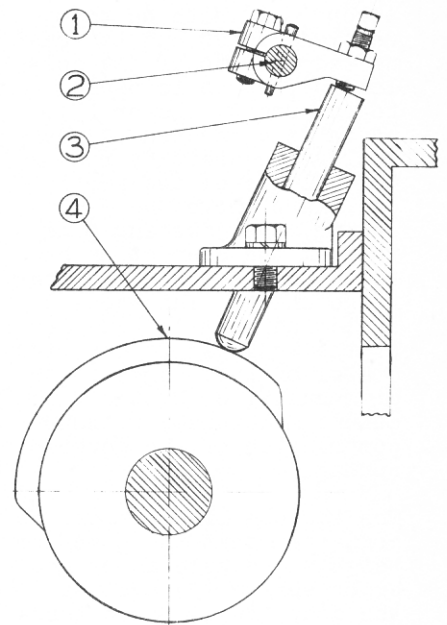

FIG. R-6
The fuel cut-out plunger is illustrated in Fig. R-6. As shown in Fig. R-6 the latch shaft is in or near the "STOP" position, with plunger (3) up on cam (4), which is mounted on one of the latch shaft webs. The upper end of the plunger has engaged the adjusting screw in lever (1), rotating the lever and the fuel wedge shaft (2) to pull out the fuel wedges and cut off fuel from the engine. The adjusting screw in lever (1) should be set to allow 1/8" clearance with the top of the plunger when the latter is down off the cam and the fuel wedges are in at the full load position.